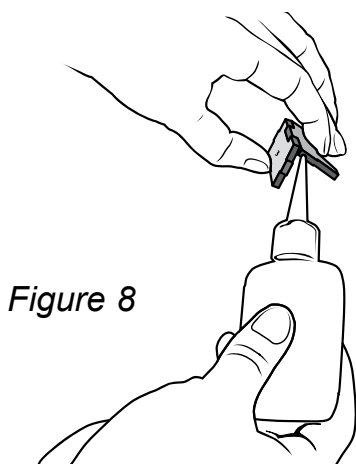
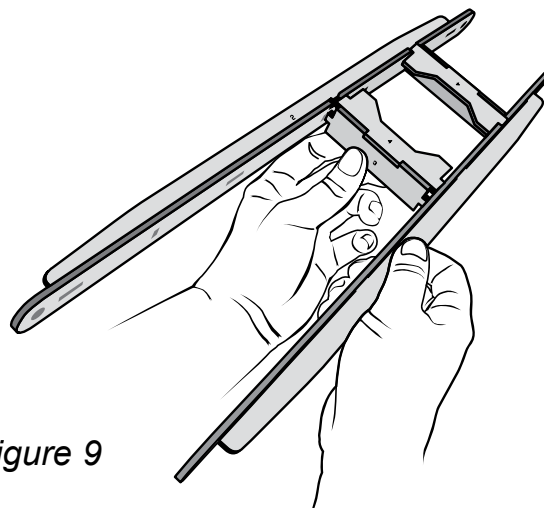

Figure 8
Figure 9
- Place a bead of glue along both ends of the deck assemblies (Figure 8) and insert them in the slots in the side rails (Figure 9).